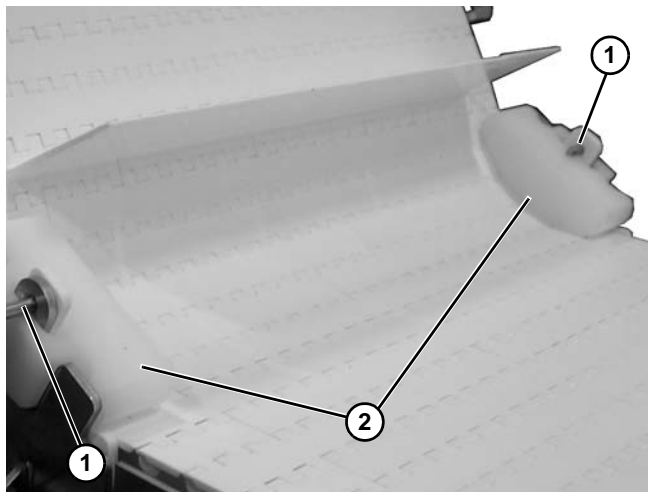

Figure 106
2. Remove pull pin (Figure 106, item 1) and return shoe (Figure 106, item 2) on each side of conveyor on lower knuckle plate.